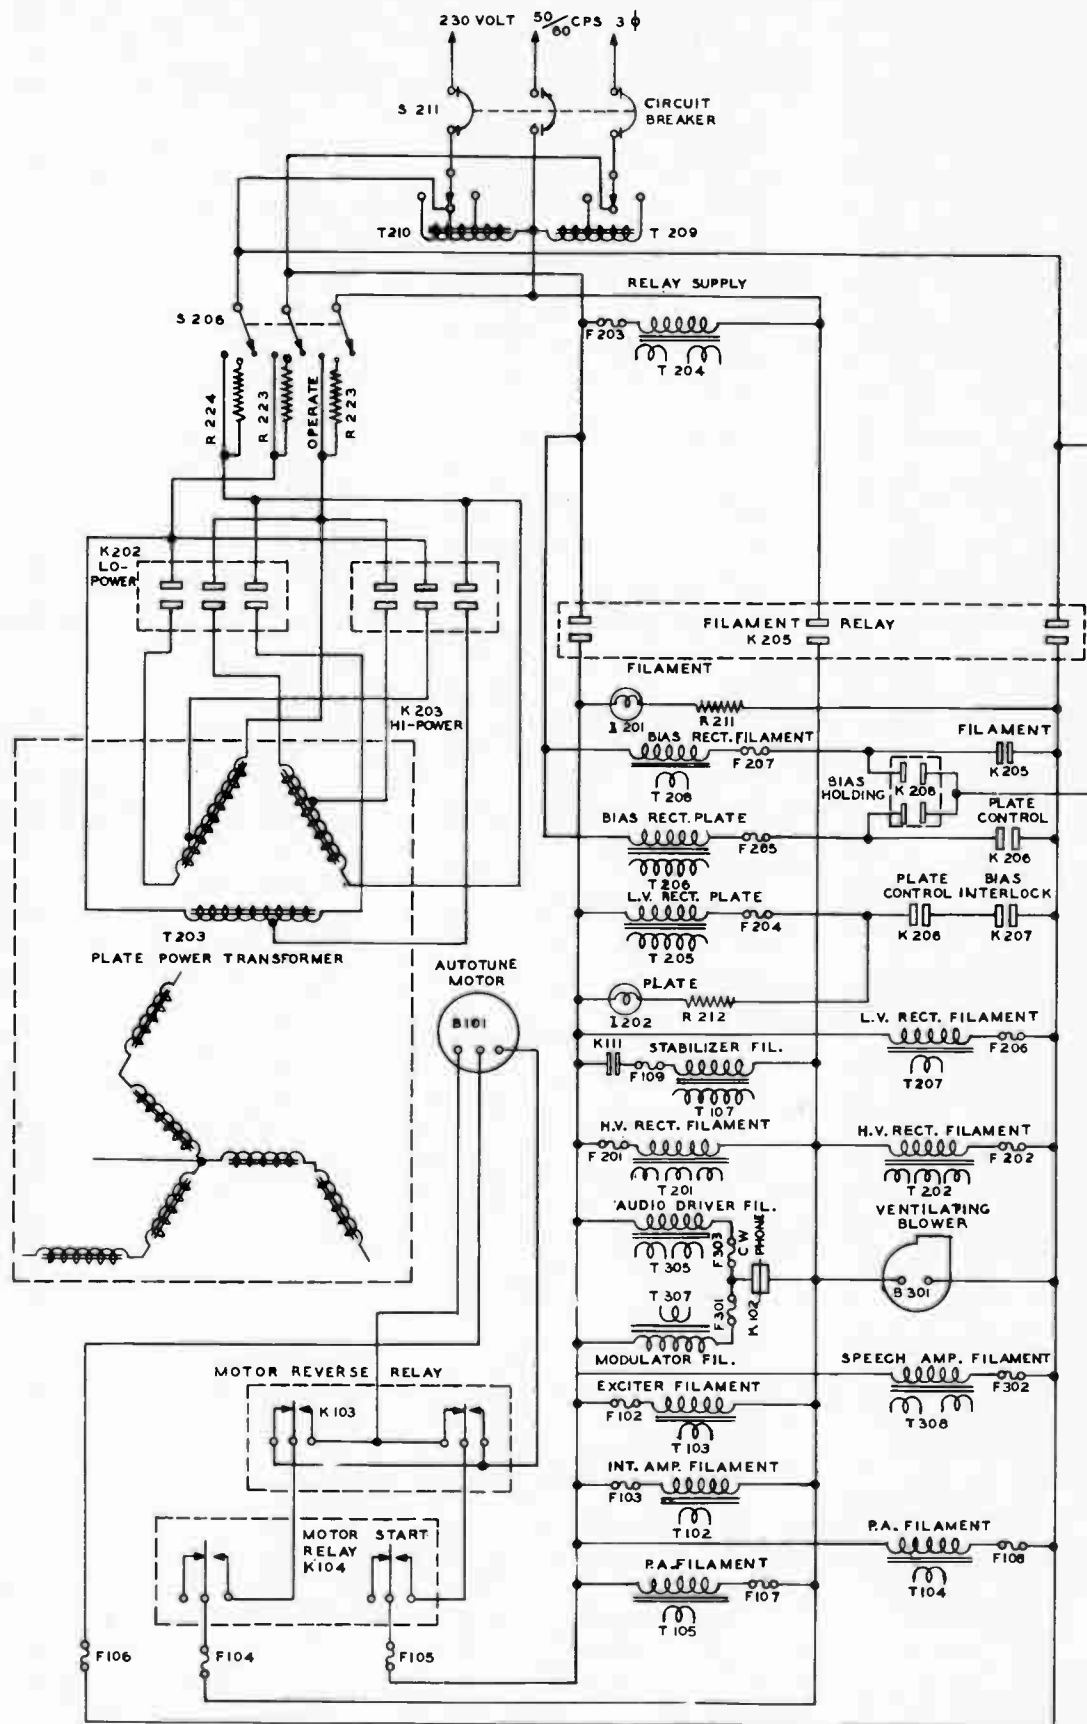

Fig. 3 A.C. Primary Circuits (Dwg. No. 502 4660 003)
2.3. A-C PRIMARY CIRCUITS. Refer to Fig. 3. The transmitter has been designed to operate from a 230 volt 50/60 cps 3-phase power source. A circuit breaker, S211, is connected in the primary power line to permit the complete disconnecting of the primary power from the transmitter circuit. Two auto-transformers, T209 and T210, are connected across the three-phase line so that voltage adjustments may be made to compensate for high or low power source voltage. The three-phase power is applied to the auto-transformers by the operation of the circuit breaker, S211.
During the time that tuning adjustments are being made with the TUNE-OPERATE switch in the H.V. TUNE position, resistors are connected in series with the leads to the transformer primary and in series with the intermediate voltage lead. Refer to Fig. 3.